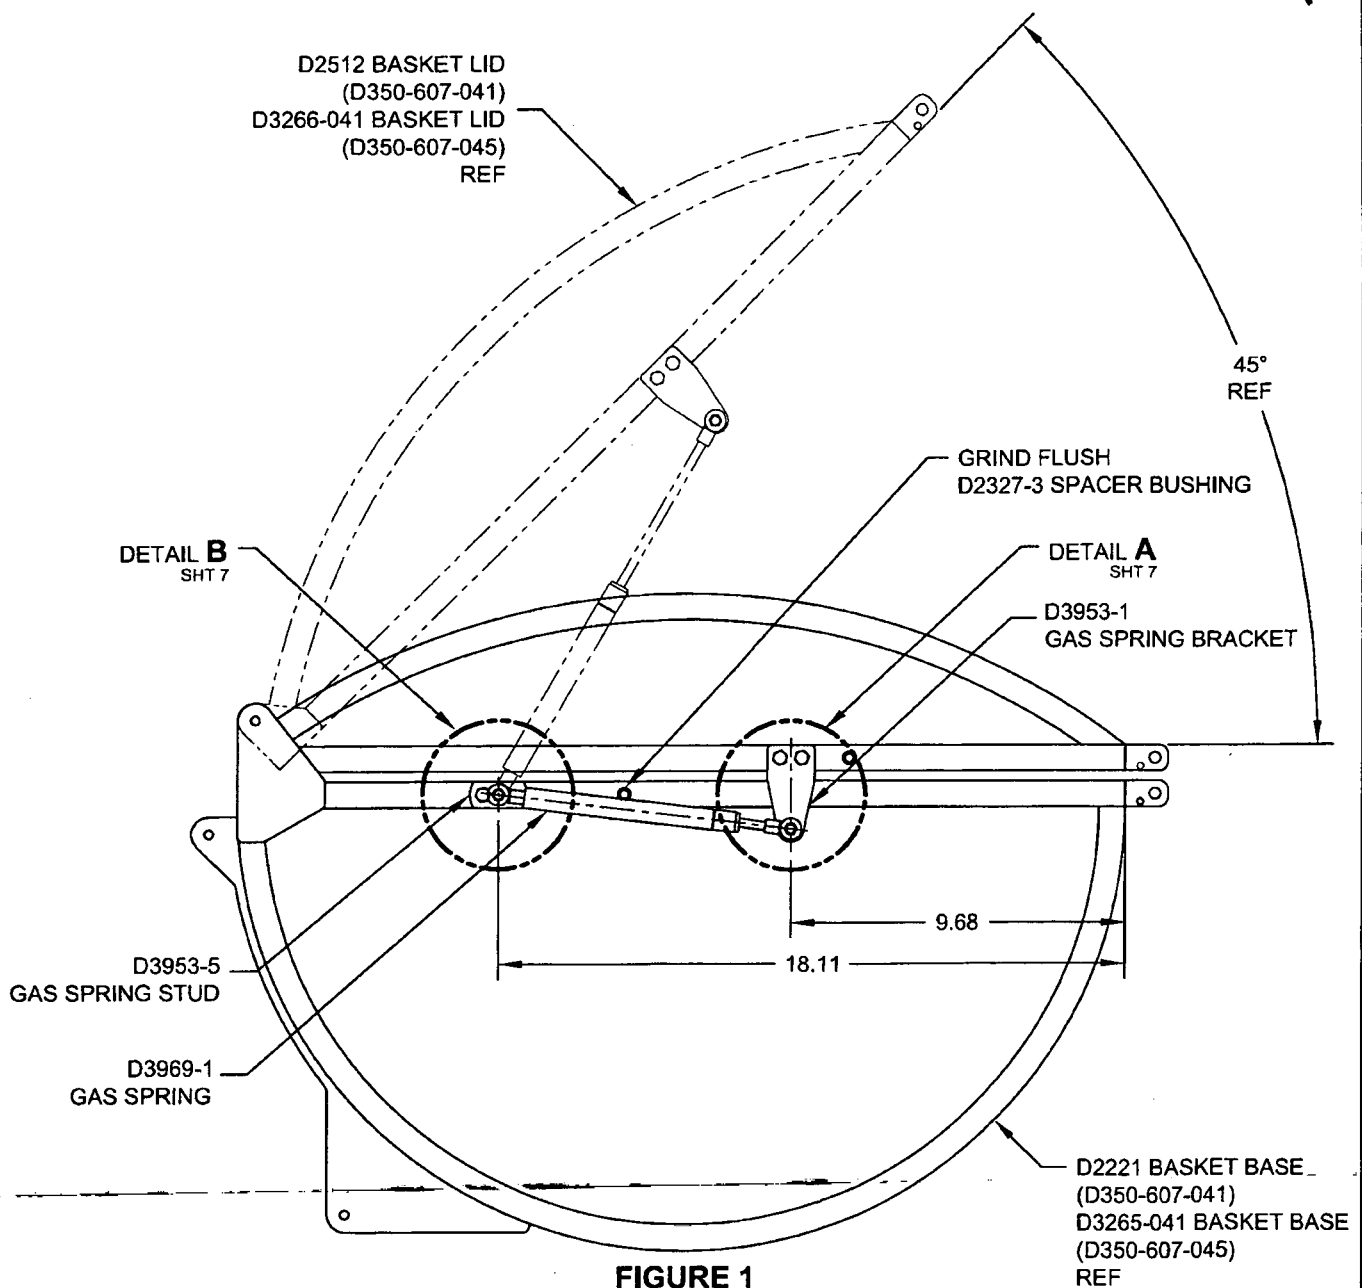

FIGURE 1
- 2) GRIND FLUSH THE D2327-3 SPACER BUSHING ON THE END OF THE BASKET WHERE THE GAS SPRING KIT IS BE INSTALLED AS SHOWN IN FIGURE 1 (IT IS PERMISSIBLE TO GRIND ALL 4 SPACERS FLUSH). TOUCH UP PAINT PER ICA-D350-607 REV. 0 SECTION 5.1 ITEM 4.
- 3) LOCATE THE D3953-1 GAS SPRING BRACKET AS SHOWN IN FIGURE 1. TRIM STEEL MESH LOCALLY AS REQUIRED. TOUCH UP PAINT PER ICA-D350-607 REV. 0 SECTION 5.1 ITEM 4. TRANSFER MARK AND DRILL 2X Ø0.194 HOLES THRU THE BASKET LID SQUARE TUBE STRUCTURE AS SHOWN IN DETAIL A. INSTALL THE D3953-1 GAS SPRING BRACKET & D3953-13 GAS SPRING SPACER USING 2X AN3C16A BOLT, 2X NAS1149C0332 WASHER & 2X MS21043-3 NUT AS SHOWN IN VIEW E-E.
- 4) LOCATE THE D3953-5 GAS SPRING STUD AS SHOWN IN FIGURE 1. TRIM STEEL MESH LOCALLY AS REQUIRED. TOUCH UP PAINT PER ICA-D350-607 REV. 0 SECTION 5.1 ITEM 4. TRANSFER MARK AND DRILL 2X Ø0.194 HOLES THRU THE BASKET BASE SQUARE TUBE STRUCTURE AS SHOWN IN DETAIL B. FASTEN D3953-5 IAW VIEW F-F USING 2X AN3C11A BOLT, 2X NAS1149C0332 WASHER & 2X MS21043-3 NUT.